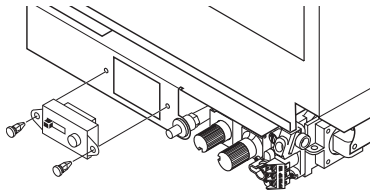

Figure 37 - Installing Remote Receiver
4. Place receiver into valve bracket and align holes (see Figure 37).